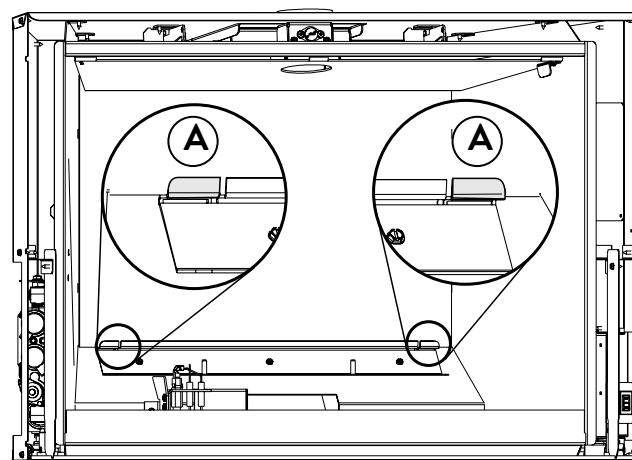

Figure 25. Bend retainer tabs up to secure the panel.
Use pliers to bend the end tabs (A) up to retain the panel in place. Fig. 25.